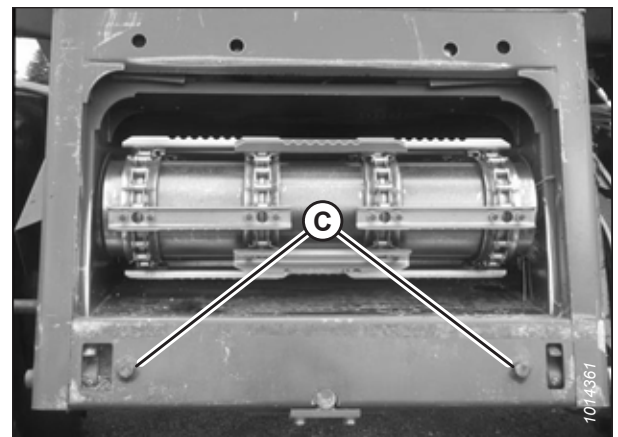

Figure 3.52: AGCO Group Alignment Pins
3. Start the engine and slowly approach the header until the feeder house is directly under float module top cross member (A) and alignment pins (C) (refer to Figure 3.52, page 69) on the feeder house are aligned with holes (B) in the float module frame.